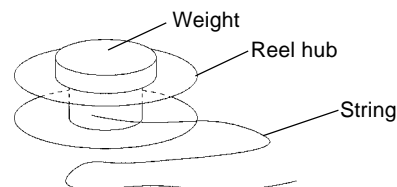

Fig. 1
- (1) Reel hub for back tension measurement (Fig. 1)